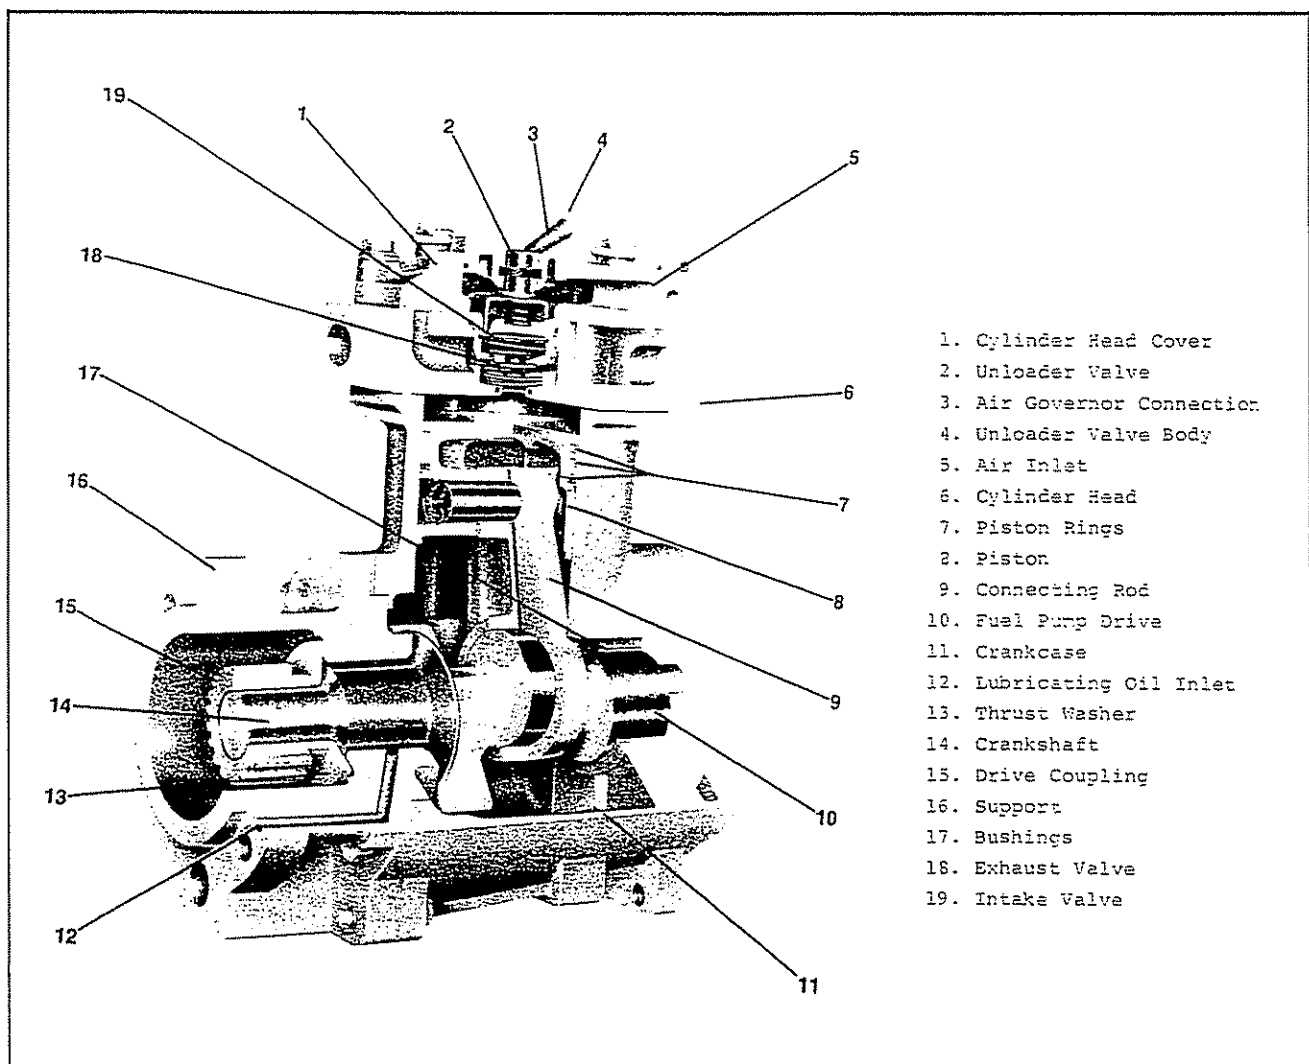

Fig. 2-69 (OM210010). Air Compressor
1. Remove the capscrews, flat washers and lock-washers securing the unloader valve assembly to the cylinder head cover. Remove the unloader valve assembly and spring from the cylinder head and cover, Fig. 2-69.